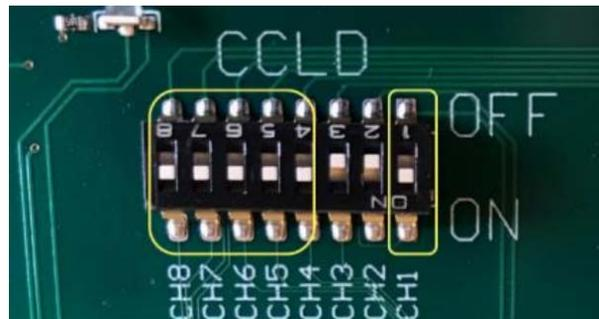

Figure 4-6: Internal CCLD DIP Switches
- Figure 4-6 shows that all channels have the CCLD power turned “on” except for channels 2 and 3.